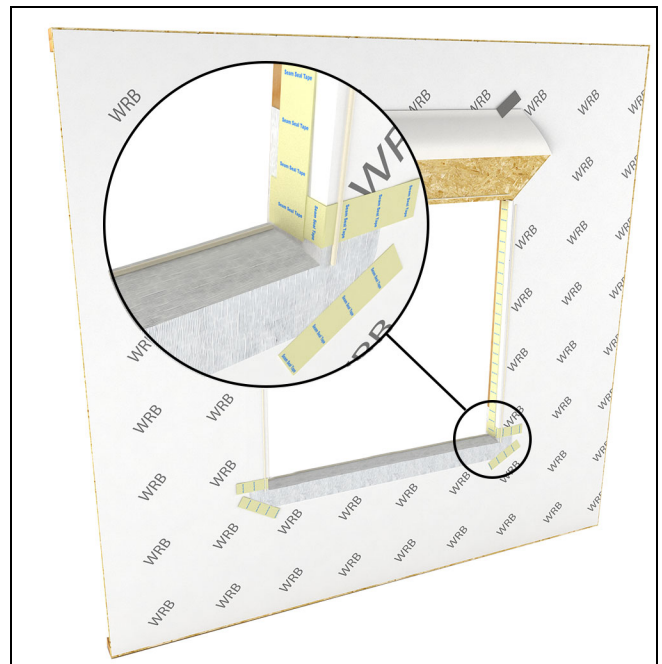

Figure 7
7. Apply seam seal tape over the corners. Place plastic or composite shims at the ends and in the middle of the RO to counter the slope of the sill wedge and support the unit. Fasten with adhesive or finish nails. If using finish nails, place adhesive under shim where the nail will penetrate. See Figure 7.